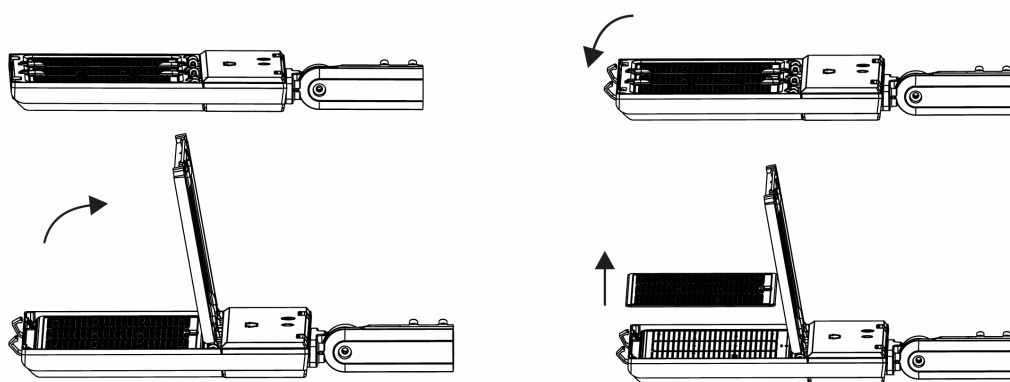

Figure 22
Step 1: Open lens door frame by unbuckling the latches and remove the pre-installed lens. (Fig. 22)